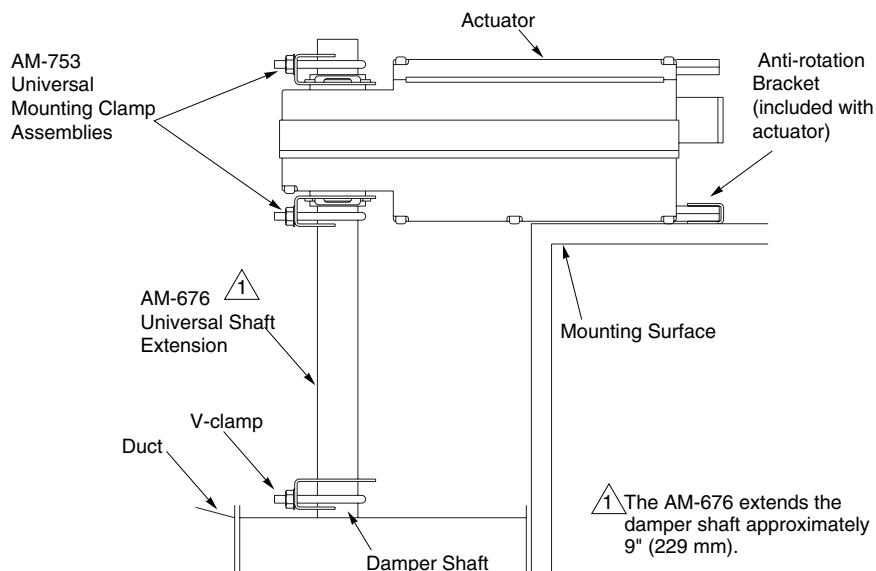

Figure-8 Installation of Universal Shaft Extension.
See Figure-8 for installation of actuator using the AM-676 Universal Shaft Extension. Installation requires AM-676 Universal Shaft Extension and AM-753 Universal Mounting Clamps for 3/4" to 1" (19 to 25 mm) shafts, these items must be ordered separately.
6. Assemble the damper actuator onto the universal shaft extension, allowing the extension to slide through the actuator's universal mounting clamps. Make sure the actuator is 90° (perpendicular) to the damper shaft. Then, hand tighten the nuts on both of the actuator's universal mounting clamps. See Figure-8.
8. Position the actuator and bracket in the desired final mounting position on the mounting surface and drill mounting holes. See Figure-8.